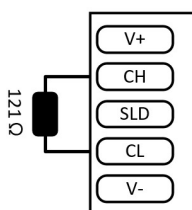

Figure 5-5-2 Terminal resistance wiring
**Note:** The power interface on the DeviceNet adapter requires a separate DC 24V power supply. Additionally, terminal resistors must be installed at both ends of the network. The wiring method for the terminal resistors is shown in Figure 5-5-2.